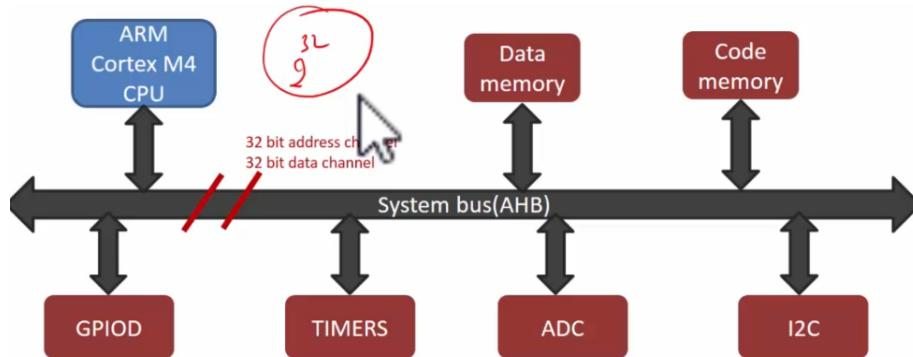

Figure 3.35: Data bus Connecting peripheral
**Each register** in GPIO D **contains its own address**, and if we want to use some register, we need to access via its unique address via the data bus as shown in Figure 3.35.